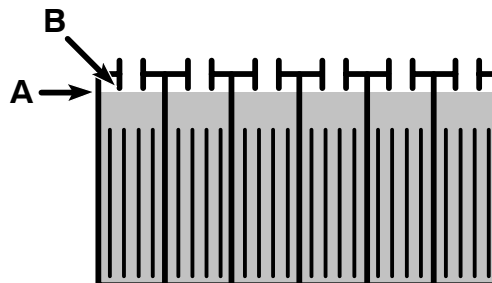

FIG. 66
3. Check the electrolyte level (A) in each battery cell **after charging batteries**. The level should be approximately 1 cm (.375 in) from the bottom of the fill-port (B). Add distilled water if needed (Figure 66) **DO NOT OVERFILL**.